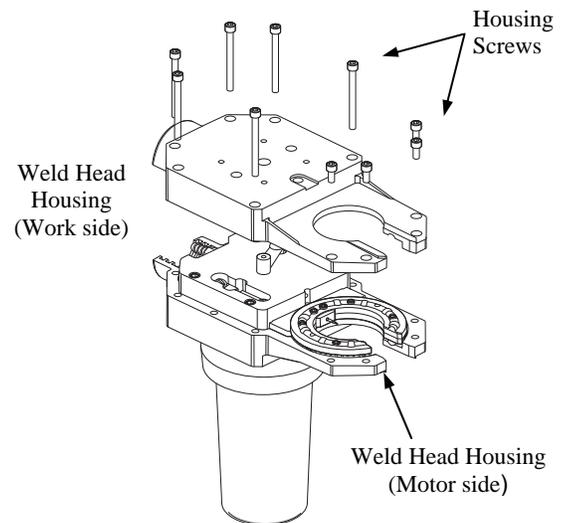

Figure 25 Removing the Locking Ring Half of the Weld Head Housing
5. Remove the weld head housing screws from the housing. Using a slight rocking motion, carefully separate the locking ring half of the weld head housing from the motor half. See Figure 25.